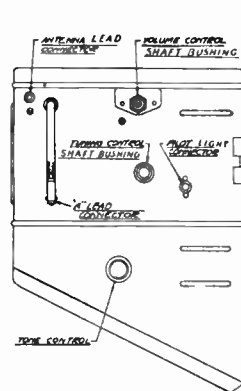

FIGURE 3
4. Connect the antenna lead in its receptacle on the end of the Receiver housing (See Figure 3).
3. The volume control flexible shaft is on the left and must be coupled in the upper shaft bushing on the end of the Receiver housing (See Figure 3). The knurled shaft nut must be tightened securely.
6. The tuning control flexible shaft must be coupled in the proper shaft bushing on the end of the Receiver housing (see Figure 3). The knurled shaft nut must be tightened securely.
7. Connect the terminal on the pilot light wire to its receptacle on the end of the Receiver housing (see Figure 3).
2. Place the fuse and fuse insulator in the small metal fuse housing on the end of the "A" lead and connect it to the short Receiver "A" lead (see Figure 3).
1. Refer to Figure 3 which shows the location of the holes in the reinforcing brace on which the speaker is to be mounted.